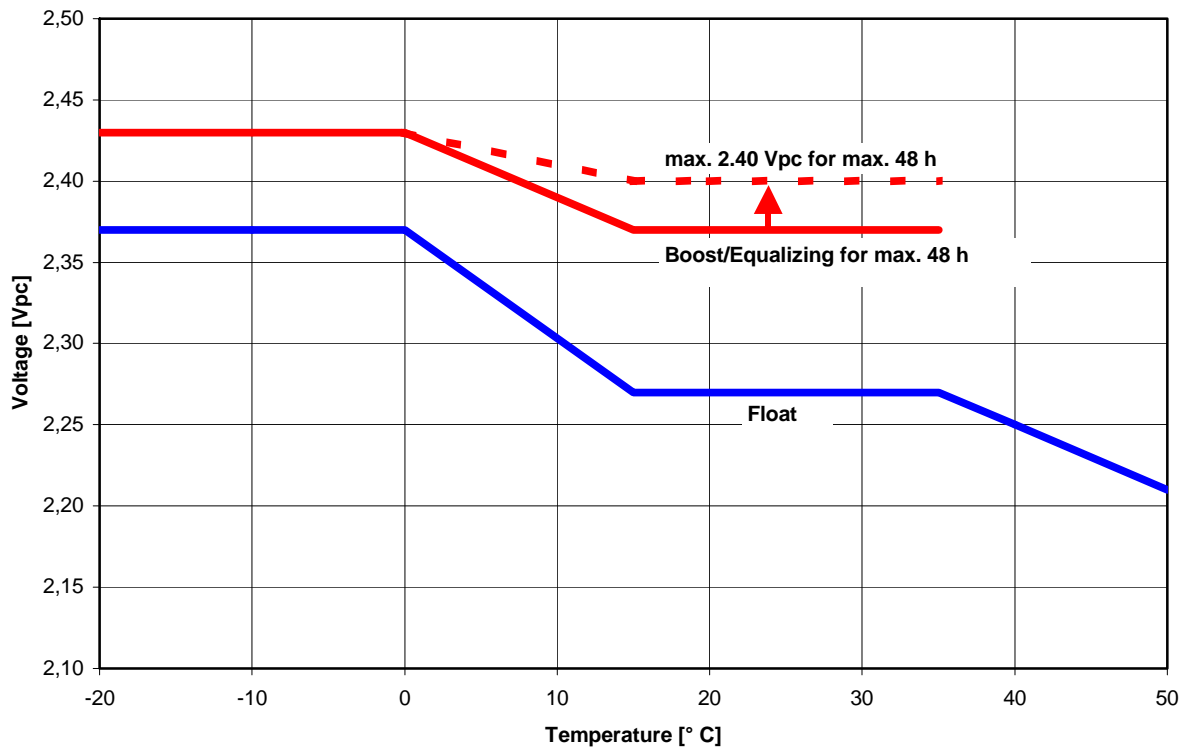

Fig. 3: A400 - Charging Voltage vs. Temperature
- A temperature related adjustment of the charge voltage within the operating temperature of 15° C to 35° C is not allowed. If the operating temperature is permanently outside this range, the charge voltage has to be adjusted as shown in figures 3, 4 and 5.